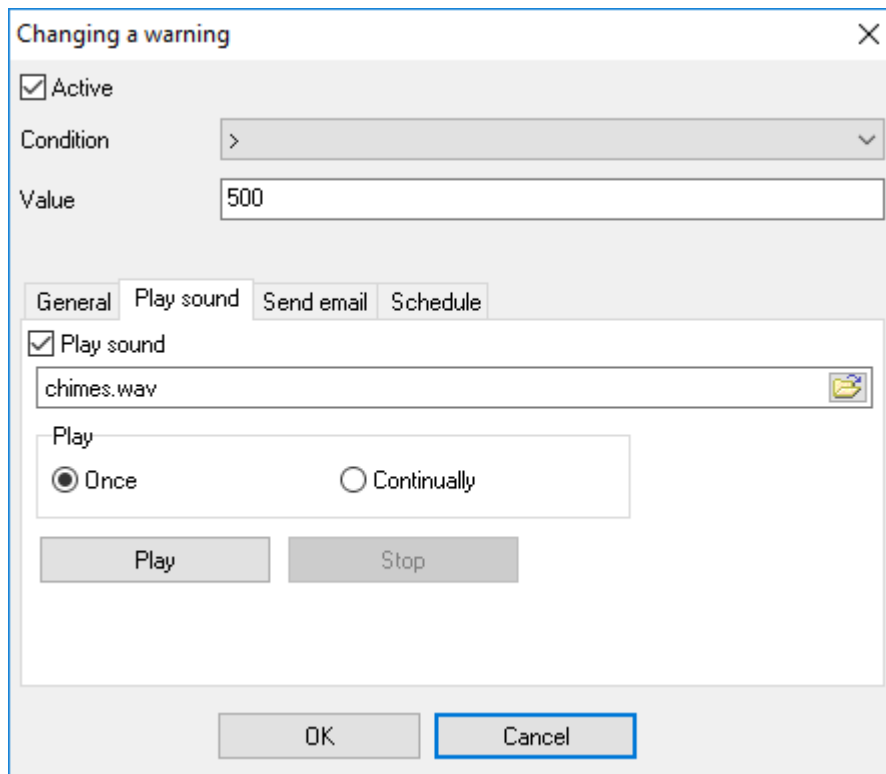

Fig. 10. Sound settings.
1. **Play sound** (fig. 10) - when this action is active the selected sound will be played when the condition is true. **Once** - the sound will be played only once when the condition state will be changed from false to true. **Continually** - the sound will be played until the value will return to the normal state.